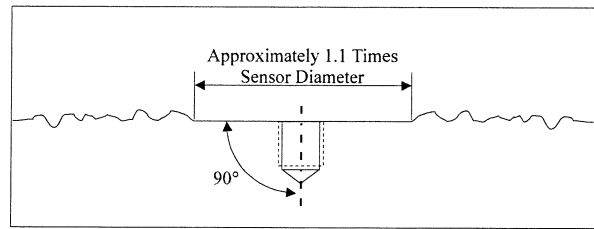

Figure 2. Mounting Surface Preparation
STEP 1: First, prepare a smooth, flat mounting surface, then drill and tap a mounting hole in the center of this area as shown in Figure 2 and in accordance with the enclosed **Installation Drawing**.